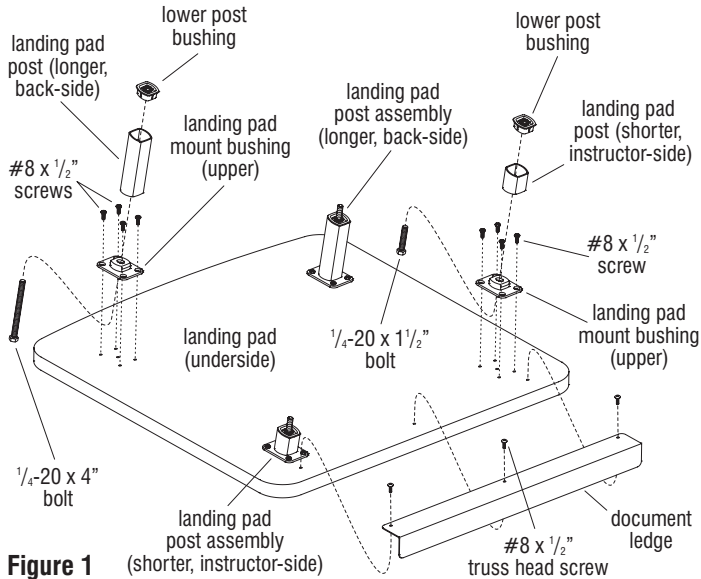

Figure 1
1. Carefully place the sloped landing pad upside down onto a soft, protective surface (Figure 1).
2. Locate the hardware pack for the sloped landing pad and identify the parts by referencing Figure 1. Take special note of the two different sized landing pad posts supplied and two different sized attachment bolts.
3. Align the mounting holes of the document ledge with the mounting holes on the underside of the landing pad. Secure the ledge to the front user-side of the pad using three #8 x 1/2" truss head screws (Figure 1).
4. Insert two 1/4-20 x 4" bolts and two 1/4-20 x 1 1/2" bolts into the four (upper) landing pad mount bushings as illustrated (Figure 1).
5. Secure the upper bushings with the shorter 1/4-20 x 1 1/2" bolts to the underside of the landing pad near the document ledge using four #8 x 1/2" screws. Then secure the upper bushings having the 4" bolts to the underside at the rear of the landing pad using four #8 x 1/2" screws (Figure 1).
6. Place the lower post bushings down onto the flat, bottom sides of the landing pad posts (two tall, and two short) as illustrated. Position the shorter, landing pad posts/bushings to the installed upper bushings closest to the installed document ledge. Take care to orient the angled edge of the posts correctly to match the slope of the landing pad underside (Figure 1).
7. Repeat the above procedure with the longer landing pad posts, positioning them to the rear upper bushings at the 4" bolt locations, correctly matching the slope angle (Figure 1).